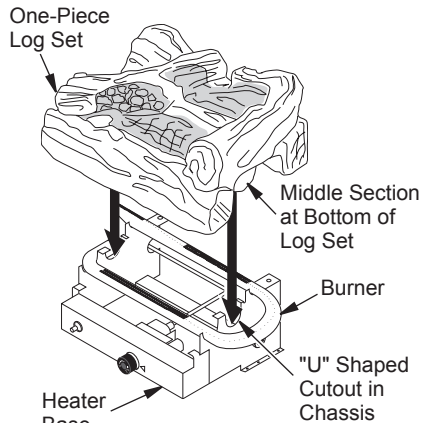

Figure 14 - Installing One-Piece Stove Log Set
1. Set one-piece log on heater base as shown in Figure 14. Make sure middle section at bottom of log is seated into "U" shaped cutout in center of heater base. Log will fit securely on base. **IMPORTANT:** Make sure log does not cover any burner ports and does not touch the stove cavity (see Figure 14).
2. Fasten back panel to stove with four (4) bolts and washers removed in step 4 of *Unpacking*, page 7. Make sure product identification label is located on the outside lower left-hand corner.